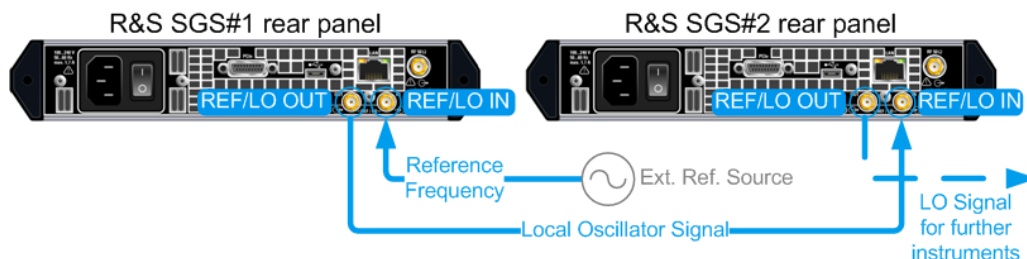

Figure 9-3: Example of a setup: LO coupling
1. Connect the instruments as a daisy chain (see Figure 9-3), i.e. connect the [REF/LO IN] connector of each further instrument to the [REF/LO OUT] connector of the previous one.
Refer to Figure 9-3 for an example of how to connect two instruments for achieving phase coherence. The configuration can be extended by further instruments.